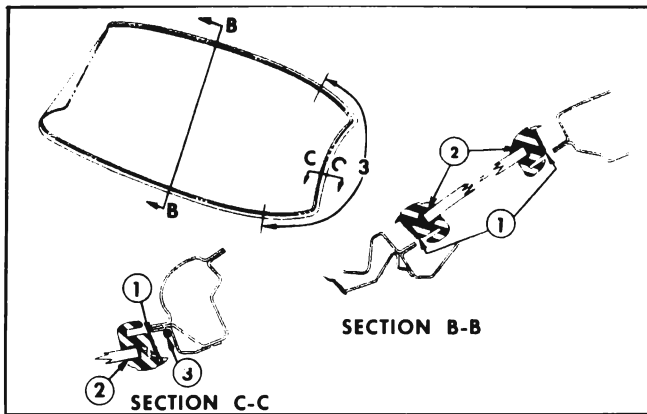

Figure 13-7—Windshield Sealing
5. Apply a ribbon of medium-bodied sealer completely around base of rubber channel as indicated by "1" in Figure 13-7.
6. Apply a bead of medium-bodied sealer, approximately 1/4" in diameter to corner of windshield opening rabbet around each side of windshield for distance indicated by "3" as shown in Figure 13-7.
9. Using a pressure type applicator, seal inner and outer lips of rubber channel to glass as indicated by "2" in Figure 13-7 with an approved weatherstrip adhesive. Seals are to extend completely around rubber channel.